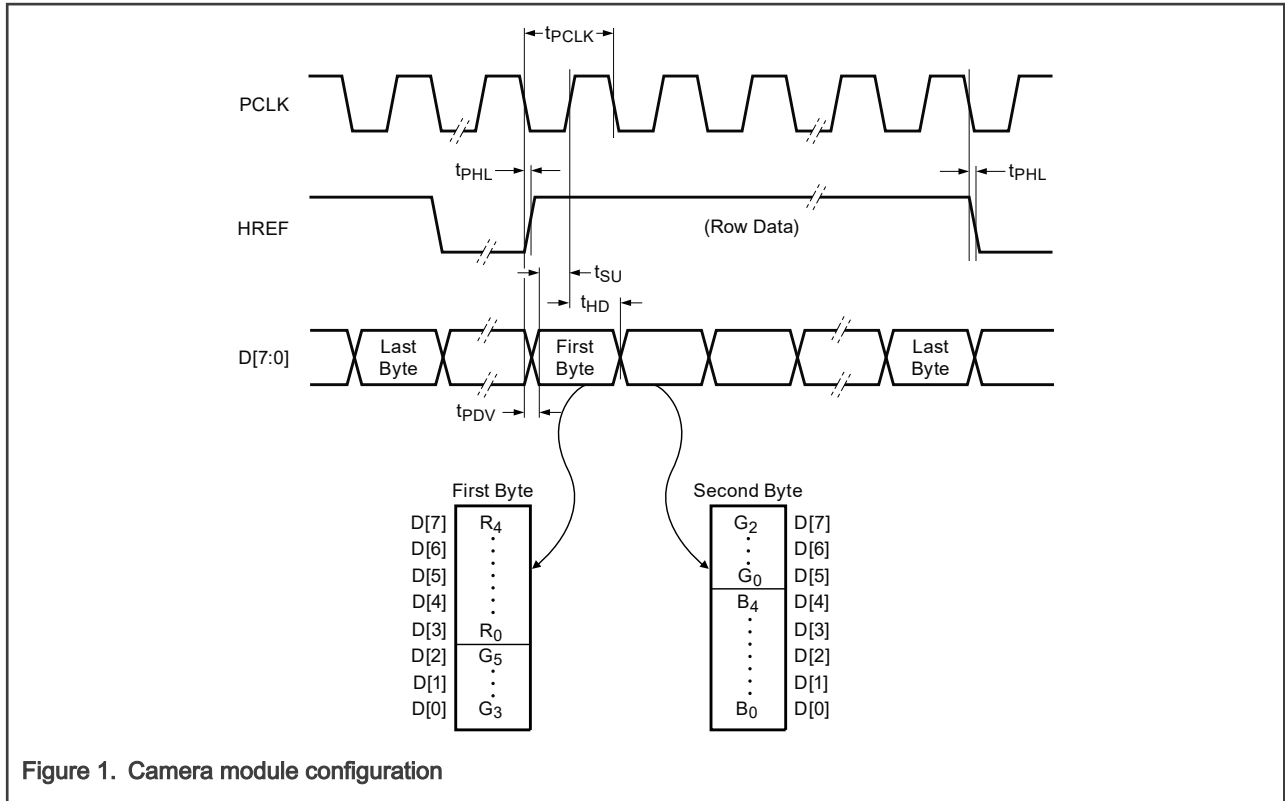

Figure 1. Camera module configuration
1. The camera module must be configured as RGB565 mode with the timing diagram, as shown in Figure 1.